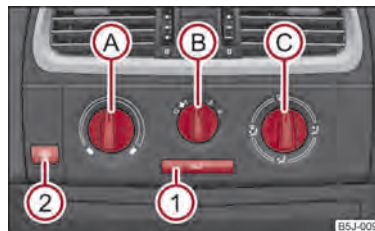

Fig. 78 Heating: Control elements
You can set the air supply to the individual vents with the air distribution control  ⇒ fig. 78. Air outlet vents 3 and 4 can also be opened or closed individually.
- Turn the control dial  ⇒ fig. 78 to the right in order to increase the temperature.
- Controls Ⓐ, Ⓑ, Ⓒ and the button ① ⇒ fig. 78.
- Press the button  ① ⇒ fig. 78 the warning light lights up in the button.
The recirculated air mode is switched off automatically if the air distribution control Ⓒ is in position  ⇒ fig. 78. You can also switch recirculated air mode on again from this setting by repeatedly pressing pushbutton .